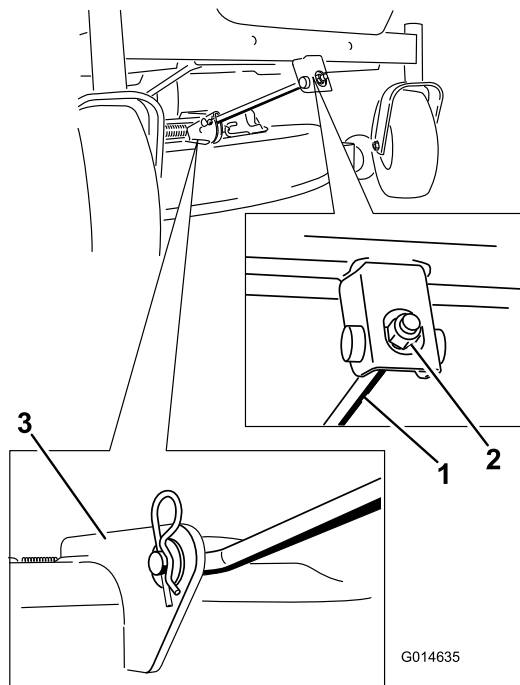

Figure 67
(Figure 67). Carefully lower the front of the mower deck to the ground.
- Attach the front support rod to the mower deck with the clevis pin and hairpin cotter (Figure 67).